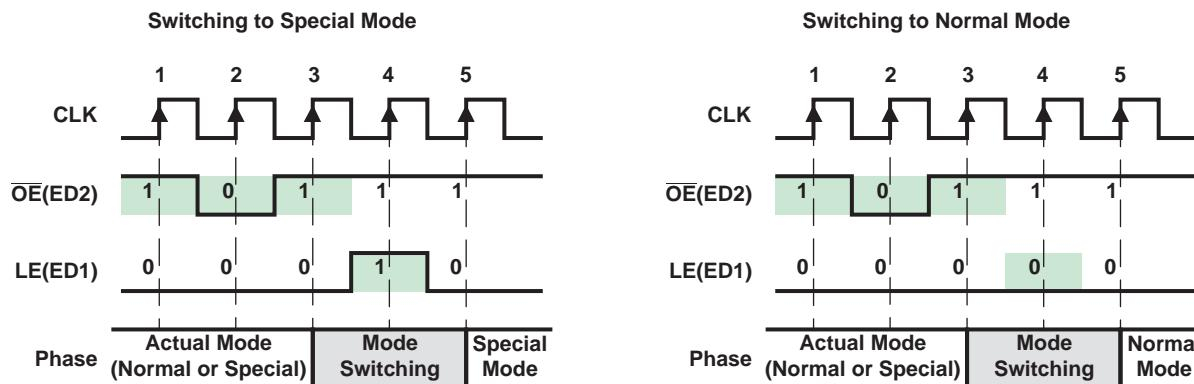

Figure 15. Mode Switching
In order to switch between its two modes, TLC591x-Q1 monitors the signal $\overline{OE}(ED2)$. When an one-clock-wide pulse of $\overline{OE}(ED2)$ appears, TLC591x-Q1 enters the two-clock-period transition phase, the Mode Switching phase. After power on, the default operation mode is the Normal Mode (see Figure 15).
As shown in Figure 15, once a one-clock-wide short pulse (101) of $\overline{OE}(ED2)$ appears, TTLC591x-Q1 enters the Mode Switching phase. At the fourth rising edge of CLK, if $LE(ED1)$ is sampled as voltage high, TLC591x-Q1 switches to Special mode; otherwise, it switches to Normal mode. The signal $LE(ED1)$ between the third and the fifth rising edges of CLK cannot latch any data. Its level is used only to determine into which mode to switch. However, the short pulse of $\overline{OE}(ED2)$ can still enable the output ports. During mode switching, the serial data can still be transferred through SDI and shifted out from SDO.